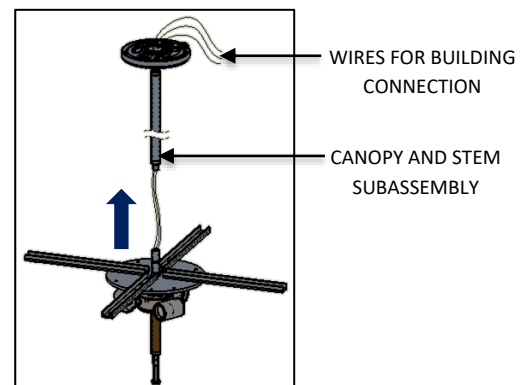
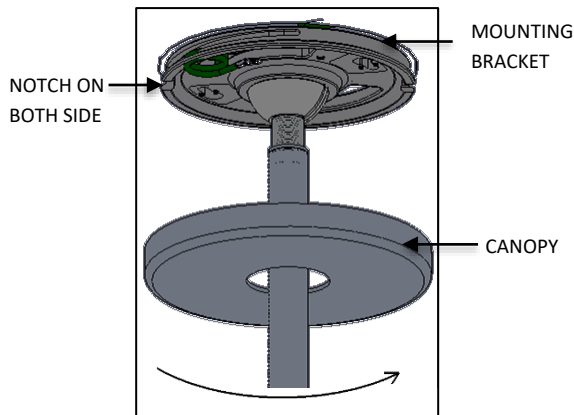

FIG. 15 – CANOPY AND STEM
FIG. 20 – CANOPY INSTALLATION
5. Feed the WIRES through the CANOPY and STEM SUBASSEMBLY and pull it from the top to give connection to BUILDING SUPPLY as shown below in FIG. 15 and then assemble STEM ASSEMBLY to REFLECTOR SUBASSEMBLY
9. Raise the CANOPY and tighten onto the MOUNTING BRACKET by lining the SPRING TABS (shown in FIG.15) up the NOTCHES in the MOUNTING BRACKET and rotating 90 degrees clockwise as shown in FIG. 20.